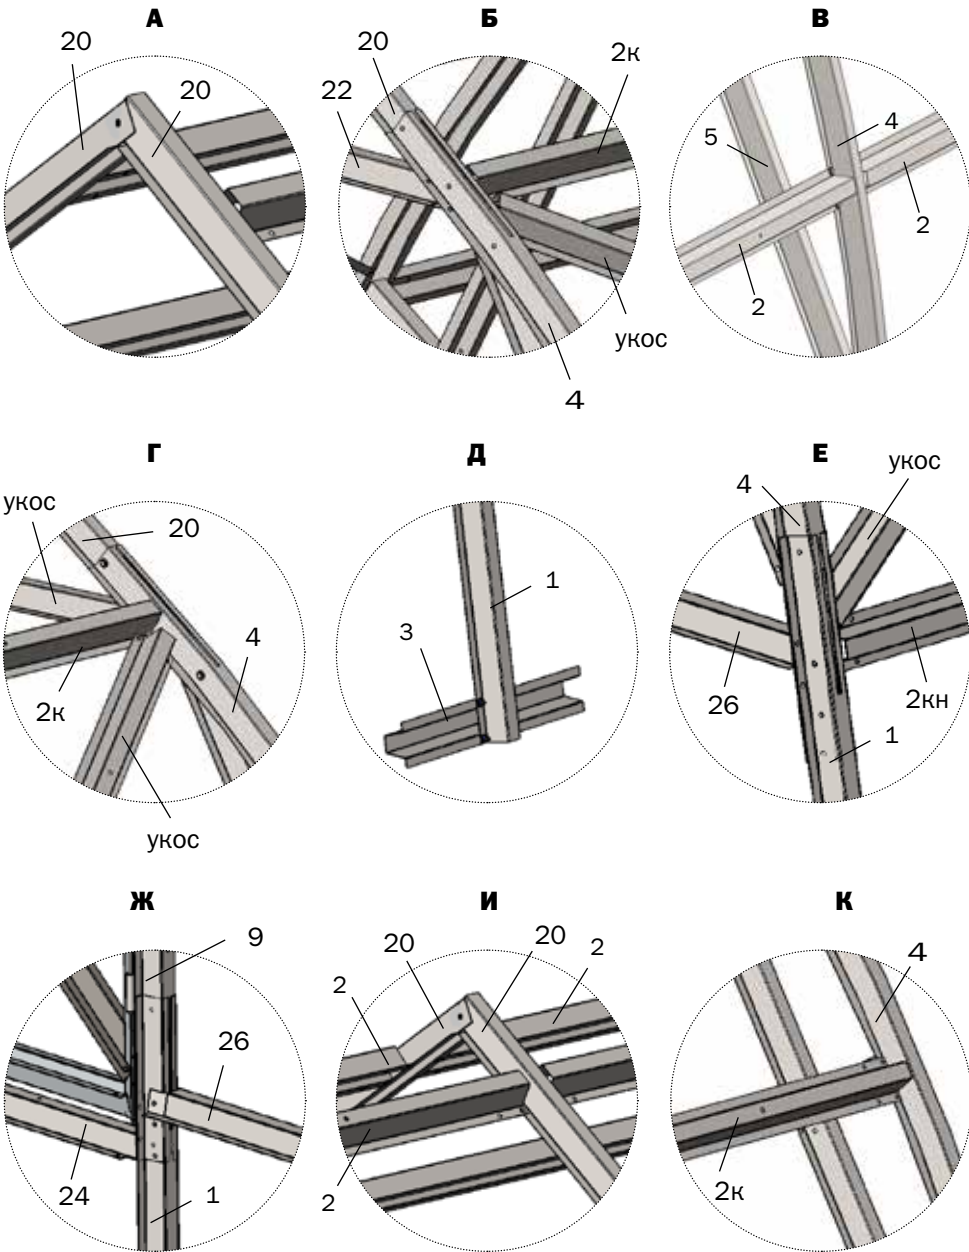

**Fig 1**
1. The general view of the frame is presented in **fig. 1**. The frame is assembled from the shape numbered parts. Medium shape shelves are facing the covering..